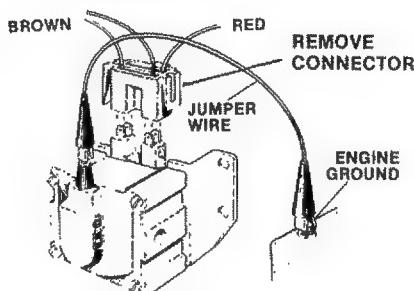

FIGURE 29
- To prevent the engine from starting while cranking on systems with a separate coil, remove the high tension lead from the center of the distributor cap and ground it by connecting the loose end to the engine or frame, as shown in Figures 29 and 30.